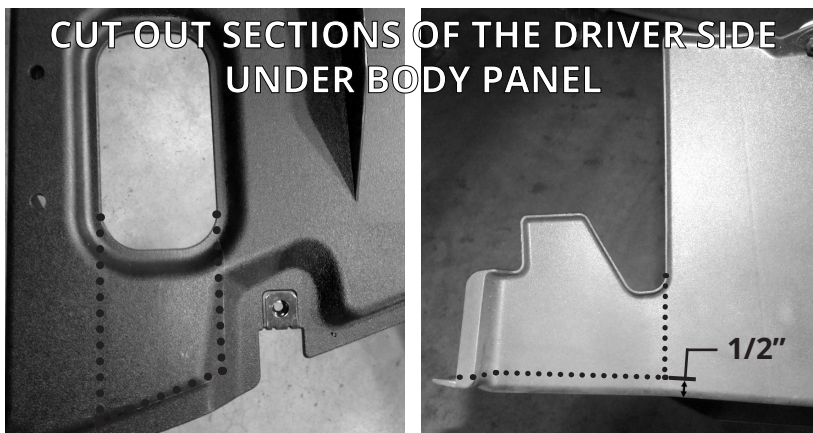

FIGURE B4: DRIVER SIDE PANEL CUT OUTS
- Use a Dremel tool (or similar tool) and file to cut out the two sections of the driver side under body panel shown in Figure B4.